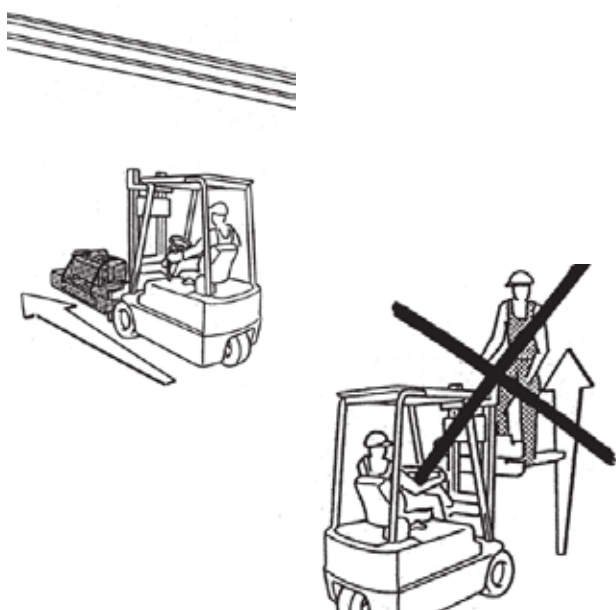

fig.15
5. Use a forklift to transport the pallet with the hoist under the attachment point. (fig.15)